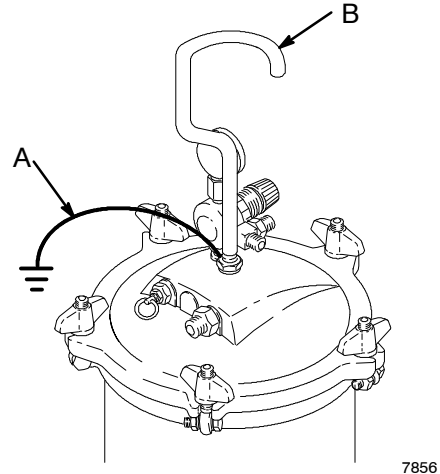

Fig. 1
1. *Pump:* connect the ground wire (A) firmly to a metal part of the tank such as the base of the carry handle (B). Connect the other end of the wire to a true earth ground. See Fig. 1. Order Part No. 237569 Ground Wire and Clamp.
Screw the riser tube (E) into the pipe fitting on the bottom side of the tank cover. See Fig 1.
Screw the handle (A) and the nut (C) onto the cover, and tighten them securely. See Fig 1.
Connect an air supply hose to the 1/4 npt air inlet nipple (9d). Connect the gun's air atomizing hose tee fitting (9e). Connect the gun's fluid hose to the adapter (D), at the point marked PAINT. See Fig 1.
Connect the air supply hose to the nipple (9d). Connect gun's air atomizing hose to the nipple (10). Connect the gun's fluid hose to the adapter (D), at the point marked PAINT. See Fig 1.
Connect the air atomizing and fluid hoses to the gun. See Fig 1.